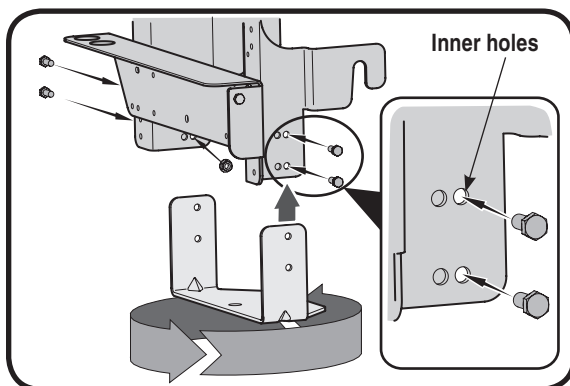

Figure 3-11
2. Rotate the hitch plate 180° from its original position. Re-insert the four bolts through mounting bracket and hitch plate frame and secure with nuts removed earlier. Use the inner holes (closest to the mounting hooks) on the mounting bracket. Refer to Fig. 3-11.